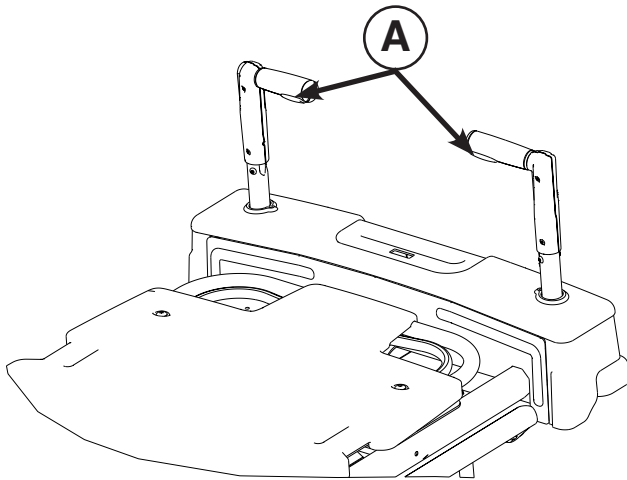

Figure 14: Drive Handles with Motion Release Switches
4. Grasp the drive handles at the two raised grip areas. Squeeze either of the motion release switches (A) located under the handles to enable the movement of the drive wheel as shown in Figure 14 and in the Drive Wheel Pedal and Drive Handle Reference label. Either one or both switches will enable movement, but both switches must be released to stop movement.